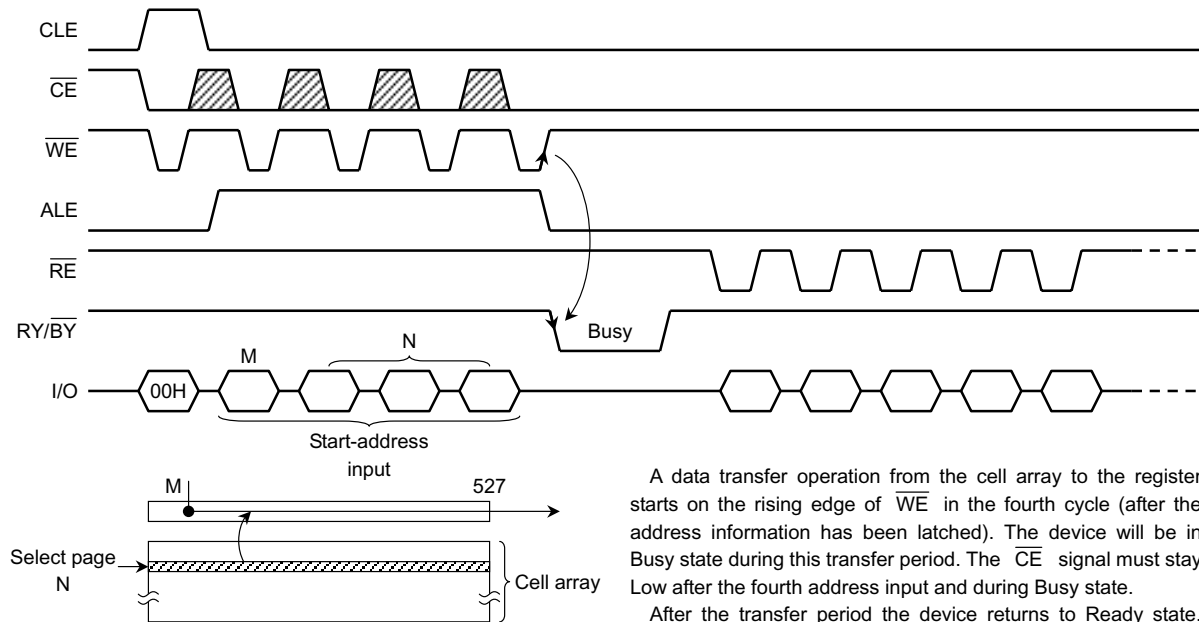

Figure 3. Read mode (1) operation
**Read Mode (1)**
Read mode (1) is set when a "00H" command is issued to the Command register. Refer to Figure 3 below for timing details and the block diagram.